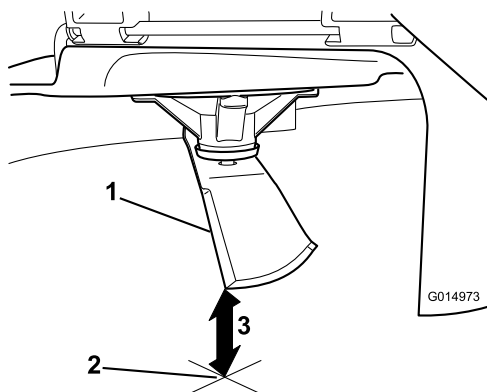

Figure 77
3. Measure from the tip of the blade to the flat surface (Figure 77).